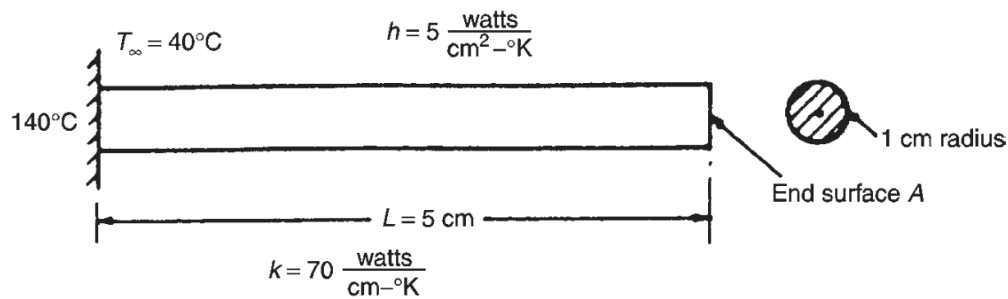

Figure.2
7. Find the temperature distribution in the fin shown in Figure.2 by including the [14]